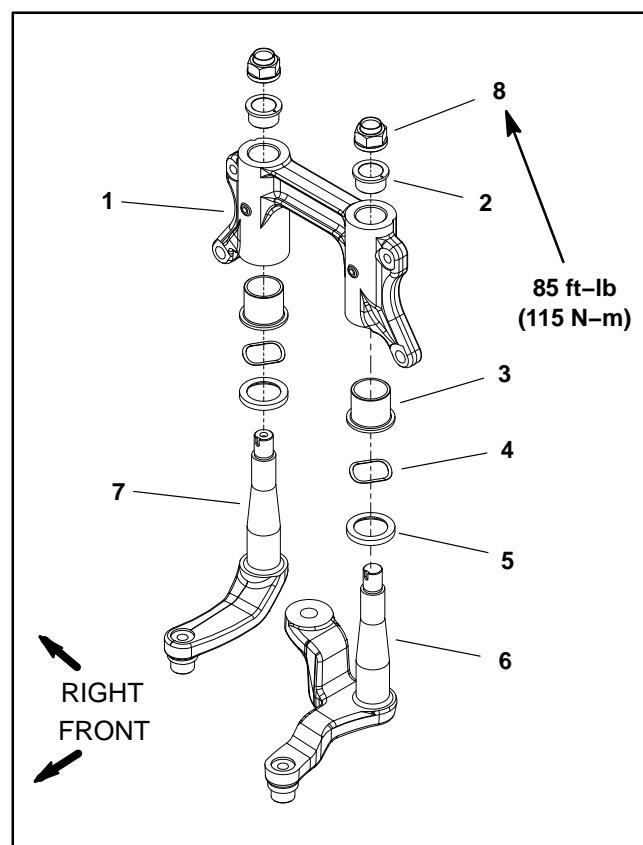

Figure 23
IMPORTANT: If staked-in portion of spindle nut (item 8 in Fig. 23) is not released before nut removal, steering linkage arms may be damaged.
- If spindle nut (item 8 in Fig. 23) is to be removed from idler or pitman arm, align a flat punch with the staked-in portion of the spindle nut. Use a hammer to carefully drive the punch into the nut to release the staking. Remove the spindle nut from the steering linkage arms. Discard spindle nut after removal.
A. If flange bushings (items 2 and 3 in Fig. 23) were removed from pivot mount, make sure that new bushings are pressed fully into the pivot mount.
B. Install and torque **new** spindle nut (item 8 in Fig. 23) to **85 ft-lb (115 N-m)**. Deform spindle nut into slot in idler arm or pitman arm after torquing nut.
2. If steering linkage (item 19) and center link (item 20) assembly was removed from vehicle:
A. Position assembly to frame and secure with removed fasteners. Torque lock nuts (item 33) from **40 to 50 ft-lb (55 to 67 N-m)**.
3. To install tie rod (item 11) to vehicle: